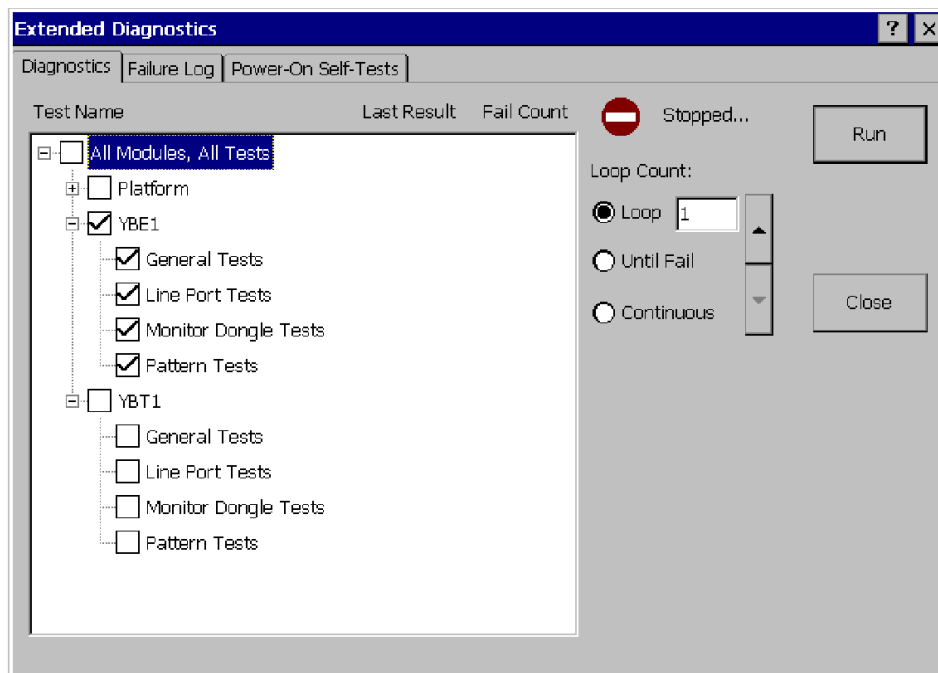

Figure C-1: YBT1E1 Option E1 diagnostic settings
10. Verify that General Tests, Line Port Tests, Monitor Dongle Tests, and Pattern Tests are checked. See Figure C-1.